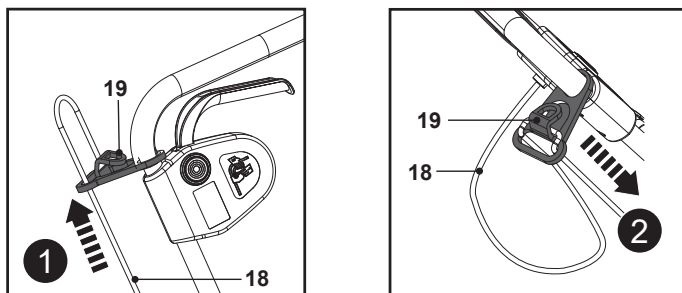

Fig. 8a
1. Double the power cord (18) back, about 40 cm from the power guard and lead the loop through the hole of the cord retainer (19) and hang the loop over the loop.
2. Pull the power cord (18) over the cord retainer (19) and gently tug on the power cord (18) to ensure that it is firmly secured (Fig. 8a, steps 1, 2).